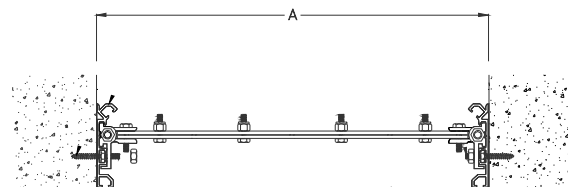

Figure 14
STEP 20. After the pantograph bars have been installed in a section of the subchannels, place the subchannels, with attached pantograph bars into their installed position, and using the fasteners provided by the factory, attach the pantograph bars to the base members (see Figure 14). Tighten the nuts between the subchannels and pantograph bars, as well as the nuts holding the pantograph bars to the subchannels, as needed so that the face seal raceways of the subchannels are properly aligned with the raceways of the base members. **DO NOT OVERTIGHTEN THE NUTS.**